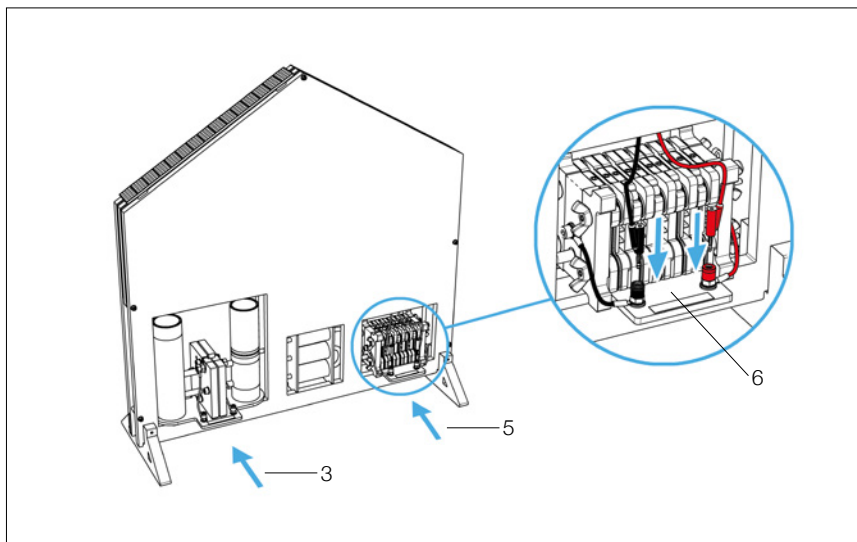

Fig. 6: Installation 3
- 3. Put the electrolyzer into the demonstration model. It is fixed by magnets. The connection jacks must be located in the front (see fig. 6).
- 5. Put the fuel cell stack into the demonstration model. It is fixed by magnets. The connection jacks must be located in the front (see fig. 6). Ensure that the connecting tube is not kinked.